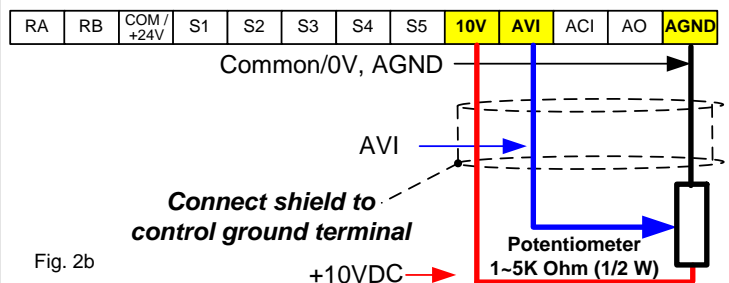

Fig. 2b
- Remove the protective covers (See L510 User Manual) and make the connections as shown below in Fig. 2b.